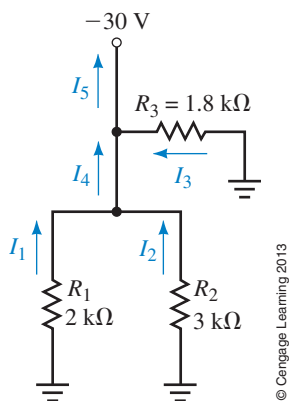

FIGURE 6–82
41. Given the circuit of Figure 6–83: